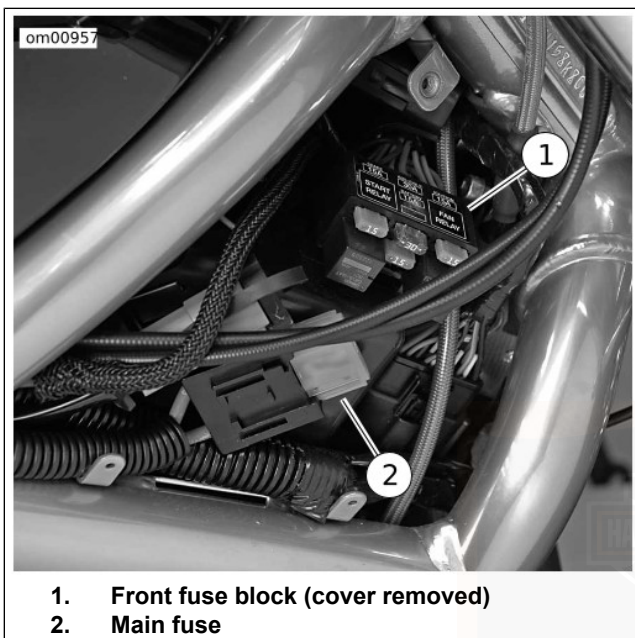

Figure 63. Front Fuse Block and Main Fuse: VRSC Models
3. See Figure 63. The front fuse block is mounted on the top right side of the battery box. Pull the tabs out from the sides of the fuse block cover. Remove cover.